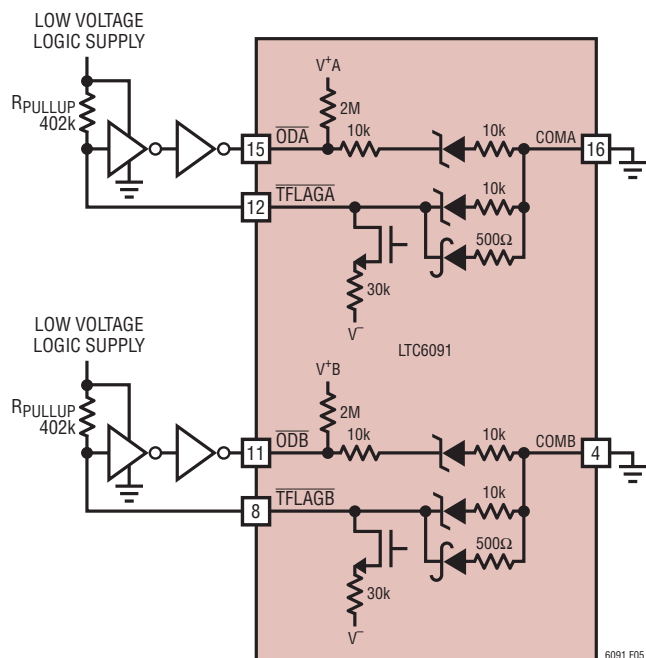

Figure 5. Automatic Thermal Output Disable Using the TFLAG Pin with Unbalanced Split Supply or Single Supply Applications
- In the case where the COM pins are grounded, and the V^- supply is within 0V to -3V of ground, logic buffers must be used to force $\overline{\text{ODA}}$ or $\overline{\text{ODB}}$ to a logic low as shown in Figure 5. The pull-up resistor (R_{PULLUP}) of Figure 5 must be chosen large enough to guarantee a logic low for the logic buffer. For most CMOS, this requires at least $402\text{k}\Omega$ of pull-up resistance. Alternatively, the logic buffer is not needed if you float both $\overline{\text{COMA}}$ and $\overline{\text{COMB}}$. With COM floating, you may simply tie the respective channel's $\overline{\text{OD}}$ directly to $\overline{\text{TFLAG}}$ for proper thermal shutdown operation.